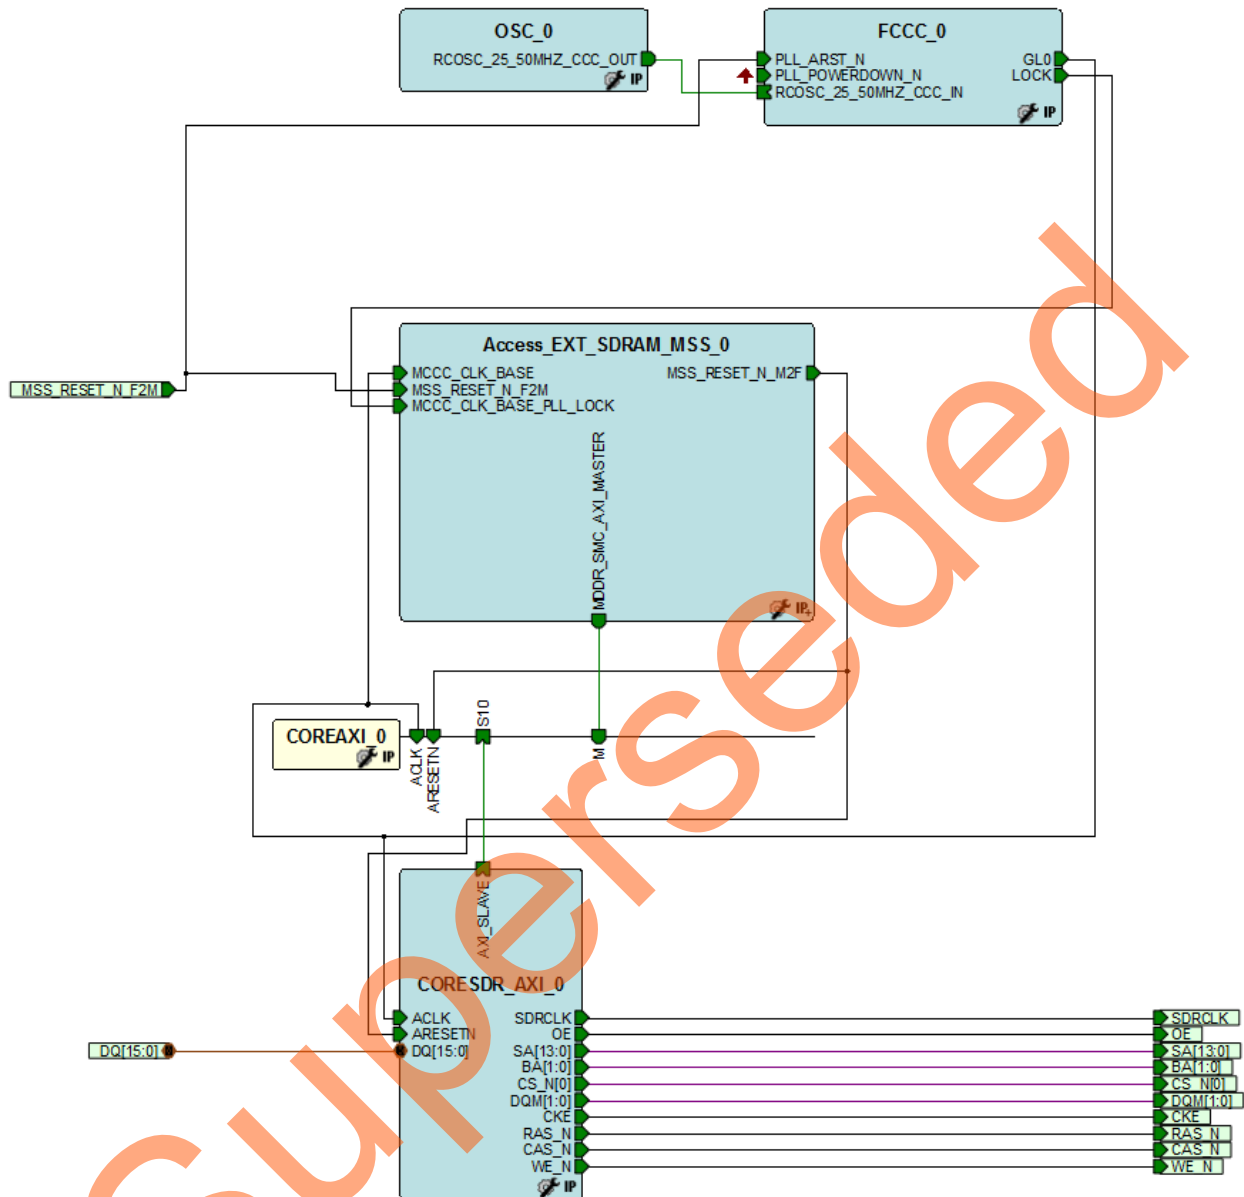

Figure 23. After Making the Top-Level Connection
4. Click **Auto arrange instances** to arrange the instances, as shown in Figure 23. Save the design by selecting **File > Save**.